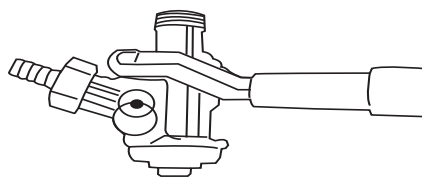

Figure 8
- Pull tapping handle out and press downward until it locks into position. (See Figure 8) The keg is now tapped.